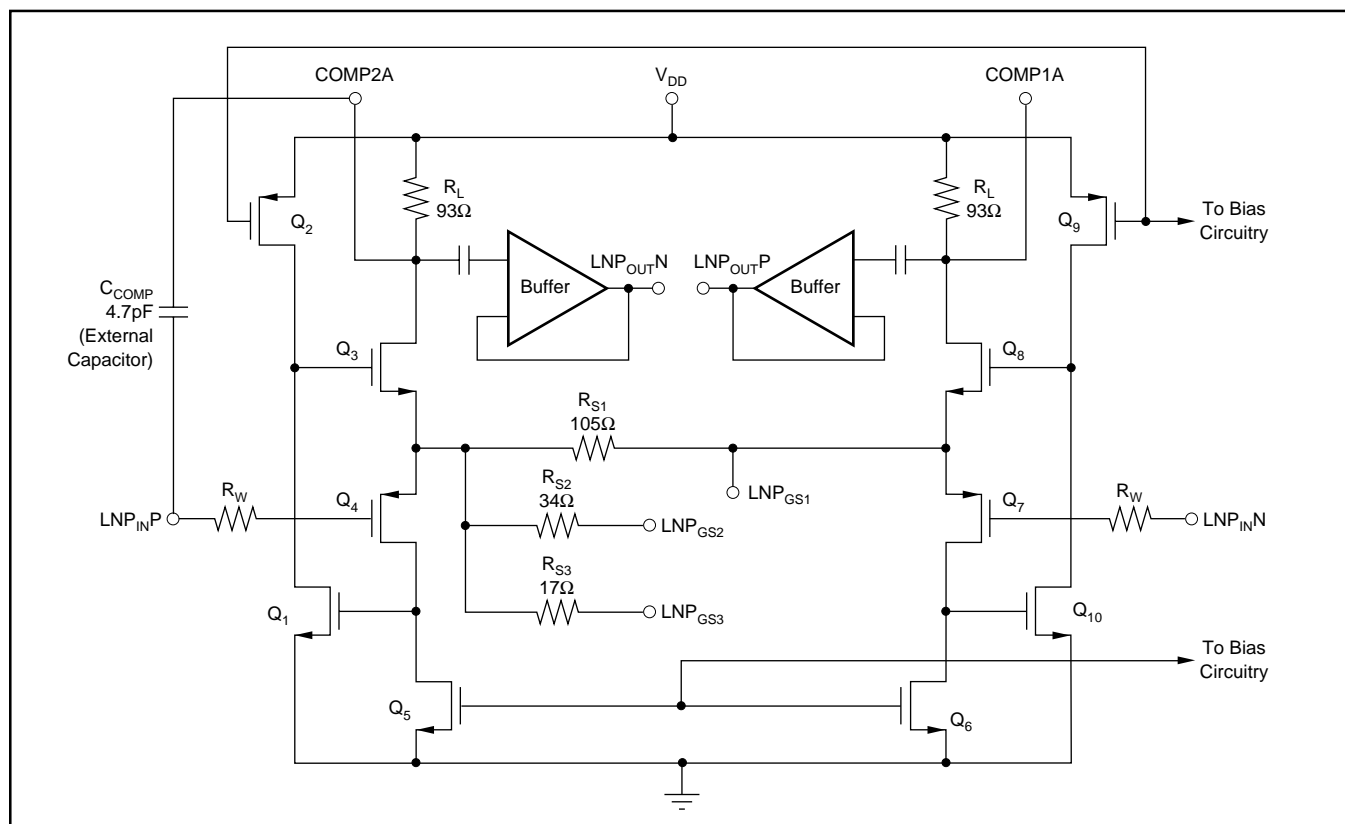
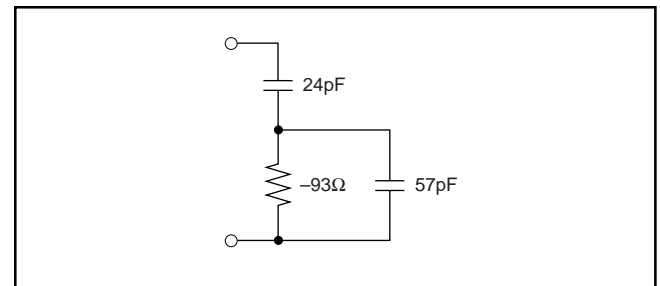

FIGURE 4. Schematic of the Low Noise Preamplifier (LNP).
FIGURE 11. VCA2613 Input Impedance.
The LNP is designed to achieve a low noise figure, especially when employing active termination. Figure 4 is a simplified schematic of the LNP, illustrating the differential input and output capability. The input stage employs low resistance local feedback to achieve stable low noise, low distortion performance with very high input impedance. Normally, low noise circuits exhibit high power consumption due to the large bias currents required in both input and output stages. The LNP uses a patented technique that combines the input and output stages such that they share the same bias current. Transistors Q_4 and Q_5 amplify the signal at the gate-source input of Q_4 , the +IN side of the LNP. The signal is further amplified by the Q_1 and Q_2 stage, and then by the final Q_3 and R_L gain stage, which uses the same bias current as the input devices Q_4 and Q_5 . Devices Q_6 through Q_{10} play the same role for signals on the -IN side.
It is also possible to create other gain settings by connecting an external resistor between LNPG_{S1} on one side, and LNPG_{S2} and/or LNPG_{S3} on the other. In that case, the internal resistor values shown in Figure 4 should be combined with the external resistor to calculate the effective value of R_S for use in Equation (1). The resulting expression for external resistor value is given in Equation (2).
where R_{EXT} is the externally selected resistor value needed to achieve the desired gain setting, R_{S1} is the fixed parallel resistor in Figure 4, and R_{FIX} is the effective fixed value of the remaining internal resistors: R_{S2} , R_{S3} , or $(R_{S2} \parallel R_{S3})$ depending on the pin connections.
For greatest flexibility and lowest noise, the user may wish to shape the frequency response of the LNP. The COMP1 and COMP2 pins for each channel (pins 10 and 11 for channel A, pins 26 and 27 for channel B) correspond to the drains of Q_3 and Q_8 , see Figure 4. A capacitor placed between these pins will create a single-pole low-pass response, in which the effective R of the RC time constant is approximately 186Ω .
The VCA2612 and the VCA2613 are very similar in performance in all respects, except in the area of noise performance. See Figure 4 for a schematic of the LNP. The improvement in noise performance is because the input wiring resistor (R_W) of the VCA2613, see Figure 4, has been considerably reduced compared to the VCA2612. This brings the input noise of the VCA2613 down to $1.0\text{nV}/\sqrt{\text{Hz}}$ compared to VCA2612's $1.25\text{nV}/\sqrt{\text{Hz}}$. The input impedance at the gate of either Q_4 or Q_7 can be approximated by the network shown in Figure 11. The resistive component shown in Figure 11 is negative, which gives rise to unstable behavior when the signal source resistance has both inductive and capacitive elements. It should be noted that this negative resistance is not a physical resistor, but an equivalent resistance that is a function of the devices shown in Figure 4. Normally, when an inductor and capacitor are placed in series or parallel, there is a positive resistance in the loop that prevents unstable behavior.